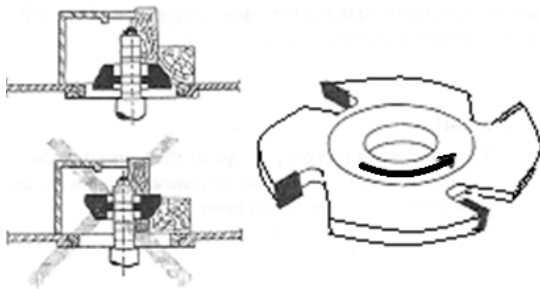
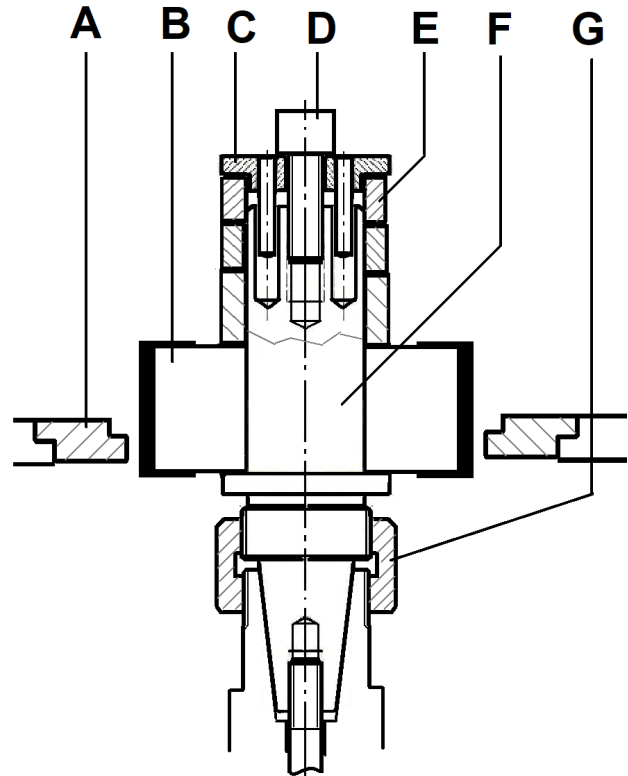

Fig 17
Fig 18.1
The cutter must be positioned on the arbour (F, Fig 18.1) as low as possible (Fig 17).
Fill the space between cutter (B, Fig 18.1) and clamping washer (C) with spacing collars (E).
Tighten the tool with the socket hex screw (D, Fig 18.1) securely. (Don't use a wrench extension or a hammer to tighten the screw)